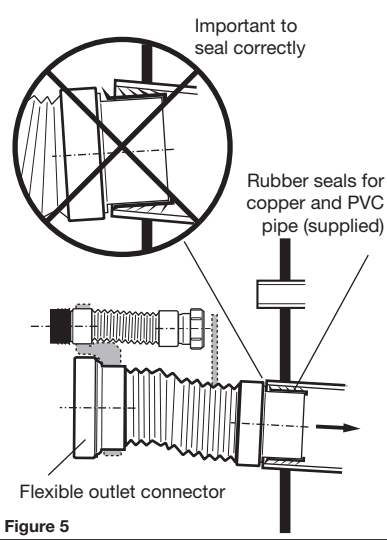

Figure 5
- 6- Select correct outlet seal to suit existing 100mm copper or 100mm PVC outlet pipe. Push flexible outlet connector on connector and ensure rubber seal is properly inserted, as shown in **Fig.5**. Mount the connector bracket onto the wall using suitable fixings (not supplied). Do not fully tighten the bracket to the wall to allow adjustment later. **Important:** On non-vertical walls pack the bracket accordingly so that the inlet and outlet connections will accept the pan in a level bedded position.